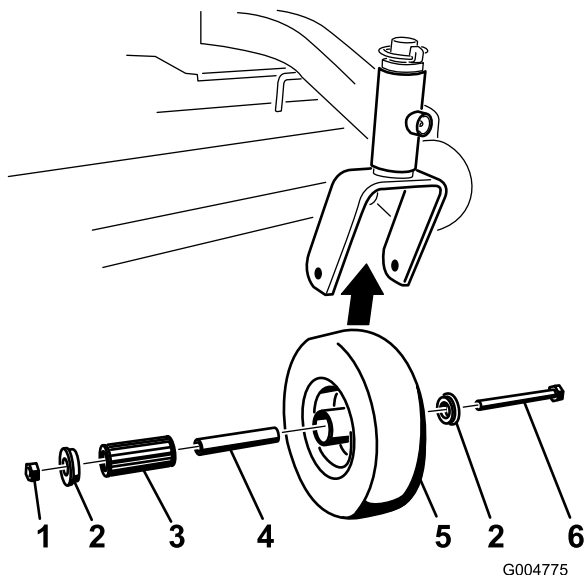

Figure 41
1. Remove the locknut and wheel bolt holding the caster wheel to the caster fork (Figure 41).
- Remove one bushing, then pull the spanner bushing and roller bearing out of the wheel hub (Figure 41).
- Remove the other bushing from the wheel hub and clean any grease and dirt from the wheel hub (Figure 41).
- Inspect the roller bearing, bushings, spanner bushing and inside of the wheel hub for wear. Replace any defective or worn parts (Figure 41).
- To assemble, place one bushing into the wheel hub. Grease the roller bearing and spanner bushing and slide them into the wheel hub. Place the second bushing into the wheel hub (Figure 41).
- Install the caster wheel into the caster fork and secure with the wheel bolt and locknut. Tighten the locknut until the spanner bushing bottoms against the inside of the caster forks (Figure 41).